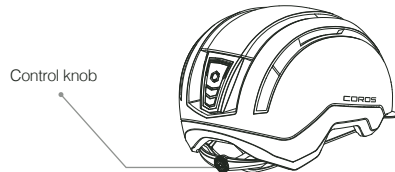

Fig. 5.
- SafeSound is equipped with an adjustable fit system which helps stabilize the helmet when worn in the correct position while riding. Fig. 5 shows where to locate the adjustable knob. Turn the knob clockwise to tighten and counterclockwise to loosen.